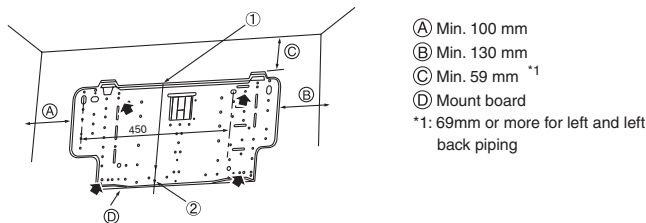

Fig. 3-3
▶ The mounting fixture must be secured at both ends and at the centre, if possible. Never fix it at a single spot or in any unsymmetrical way. (If possible, secure the fixture at all the positions marked with a bold arrow.) (Fig. 3-3)